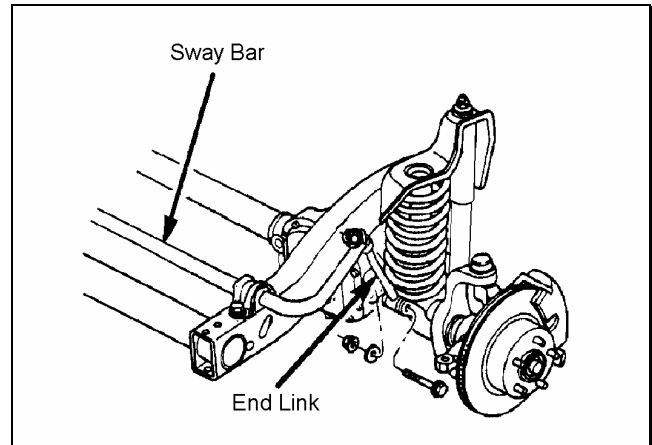

Figure 3
8) ☐ Position a floor jack under the front axle for support. Remove both front sway bar end links. See Figure 3.